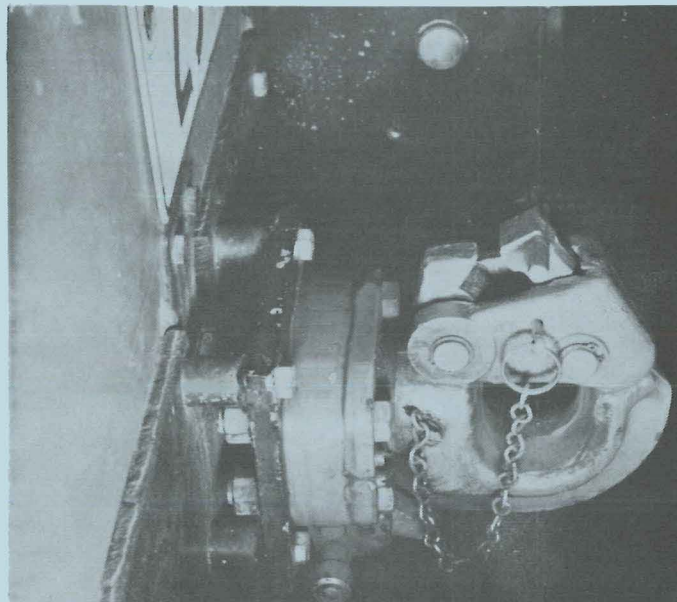

FIG 1 - LOCATING COTTER PIN INCORRECTLY POSITIONED
1. This instruction details the reworking of the pintle hook locking latch to prevent the locating cotter pin being inserted on the under side of the locking latch. Figure 1 shows this defect.